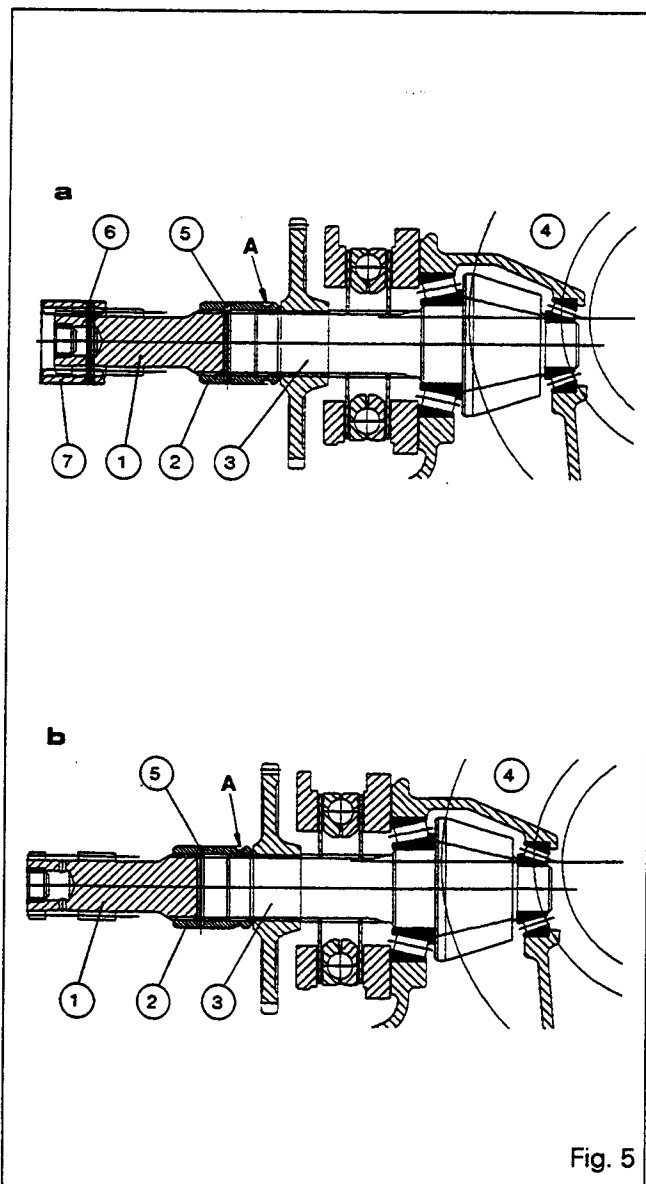

Fig. 5
Note: Groove A in the sleeve (2) must be directed towards the differential ring gear (4) (Fig. 5).